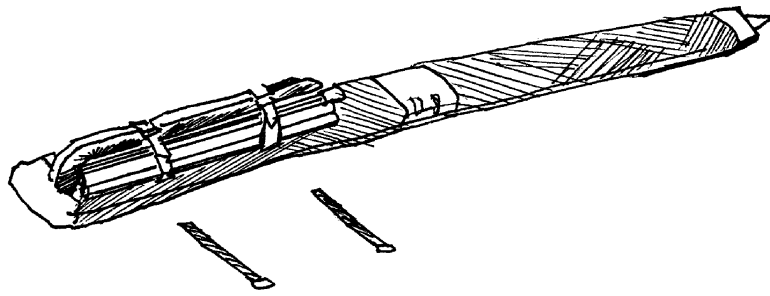

Fig.49
- 4.3.21. Put two tighten tapes on the bag with the sail, then put two tapes around all tubes, battens, kingpost and speedbar trying to decrease the dimensions of the package. Control that details of the frame do not make local damages of the sail. Use additional washers if necessary. Tighten the package with the tapes (Fig.49).